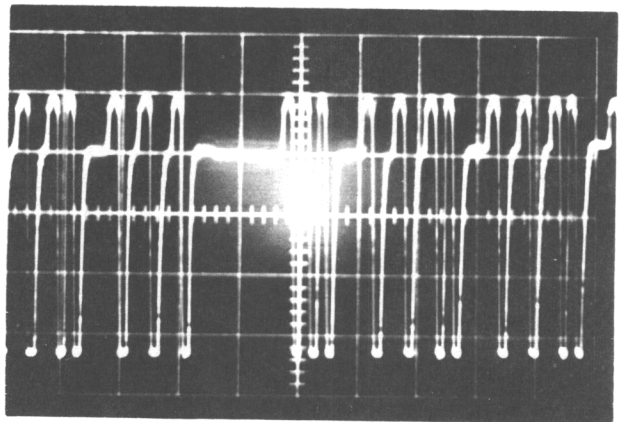

Figure 3-26. 1K12G (0.1 ms/div, 1 v/div, X5)
3. Observe 1K12G and adjust the potentiometers on 1K15 and 1K16 until the base line is at approximately the same DC level as observed at 1K12H (Figure 3-26). Both potentiometers will be near the counterclockwise end of their adjustment range. Do not leave the potentiometers near the end of their range; turn counterclockwise until data disappears (indicates that the 1405 is not reading correctly), then turn clockwise at least one full turn after data reappears on scope.